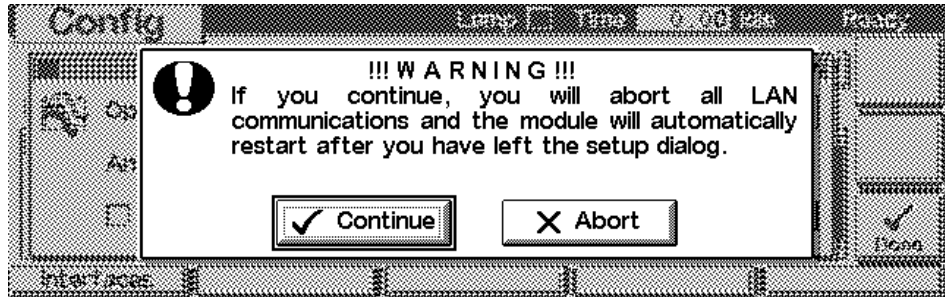

Figure 32 Warning message
- 4 A Warning message shall pop up. Press “Continue” (Figure 32).